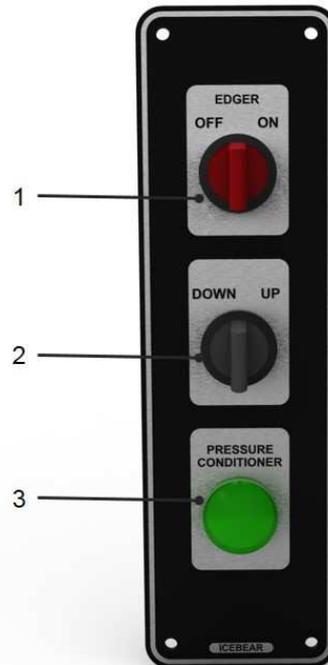

Fig. 4.6: Edger Control Panel
The edger is turned on and off by turning the switch (Fig. 4.6, Item 1) to the left or to the right accordingly. The illuminated switch indicates the status.
- The conditioner must be pressed down onto the ice until the green CONDITIONER PRESSURE indicator lamp (Fig. 4.6, Item 3) lights up.
Conditioner Pressure Indicator (Fig. 4.6, Item 3)